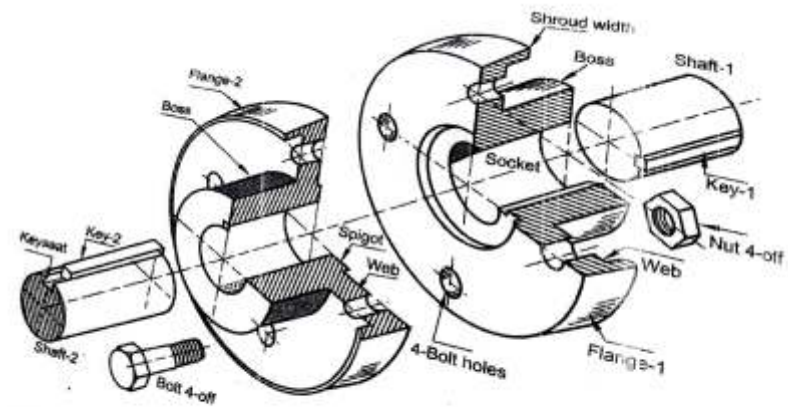

Figure 3
Q.14 Fig.3 shows the detail drawings of flange coupling. Draw the following views of it after assembly: